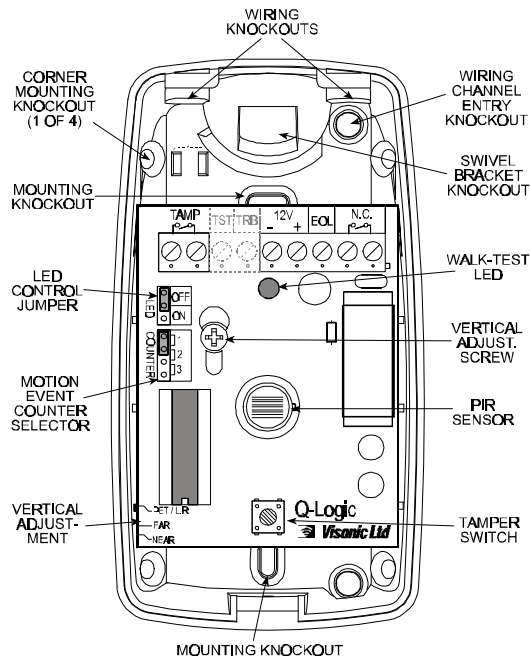
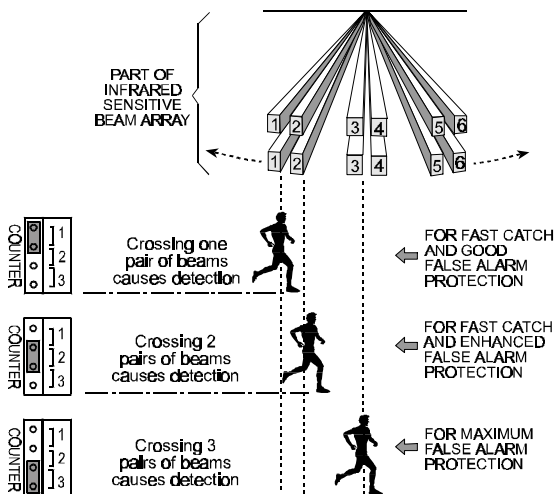

Figure 5. Inside View
Figure 14. Motion Event Counter Setting Options
D. Refer to Figure 5 and punch out the mounting knockouts at the rear wall of the base (for surface mounting) or mounting knockouts at the angled sides of the base (for corner mounting).
- E. Punch out any one of the wiring knockouts shown in Figure 5.
The location of the motion event jumper is shown in Figure 5. Refer to Figure 14 below and mount the jumper as desired.